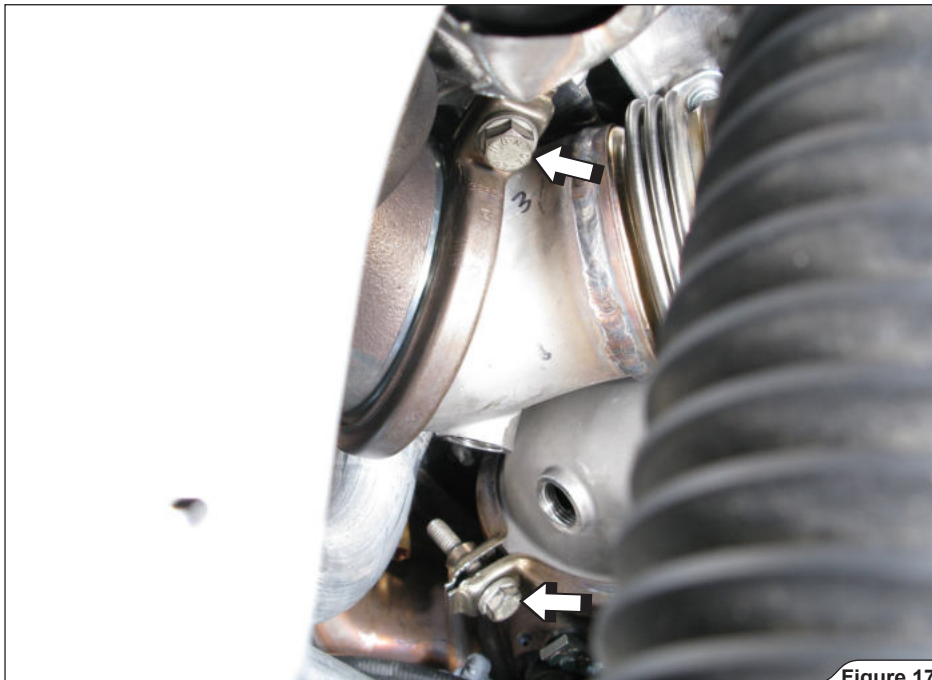

Figure 17
1. **For optional Down Pipes:** attach the Akrapovič Down Pipes (**the right Down Pipe first!**) onto the vehicle, using original spherical clamps; hand tighten the clamps only (**Figure 17**).